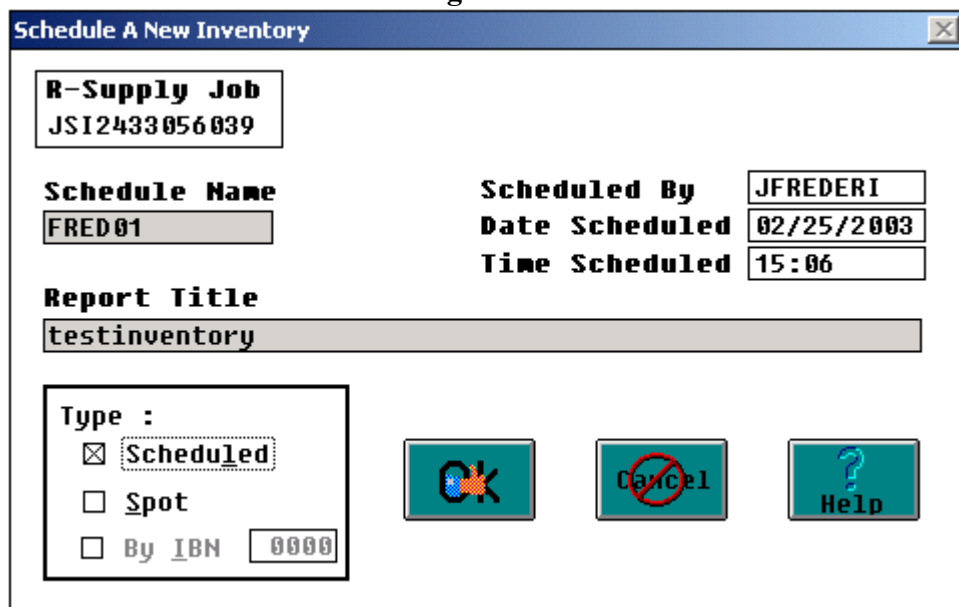

Figure D4
- g. Enter a Report title (This is a user-defined name with a maximum of **40** characters long). (FIGURE D4)